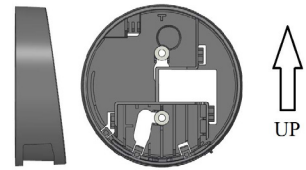

Figure 1a
- (a) Position the keypad housing on the safe door so that the battery door is at the bottom and attach using (2) #8-32 or M0.7 screw and (2) T-shaped spacers. (Figure 1a)